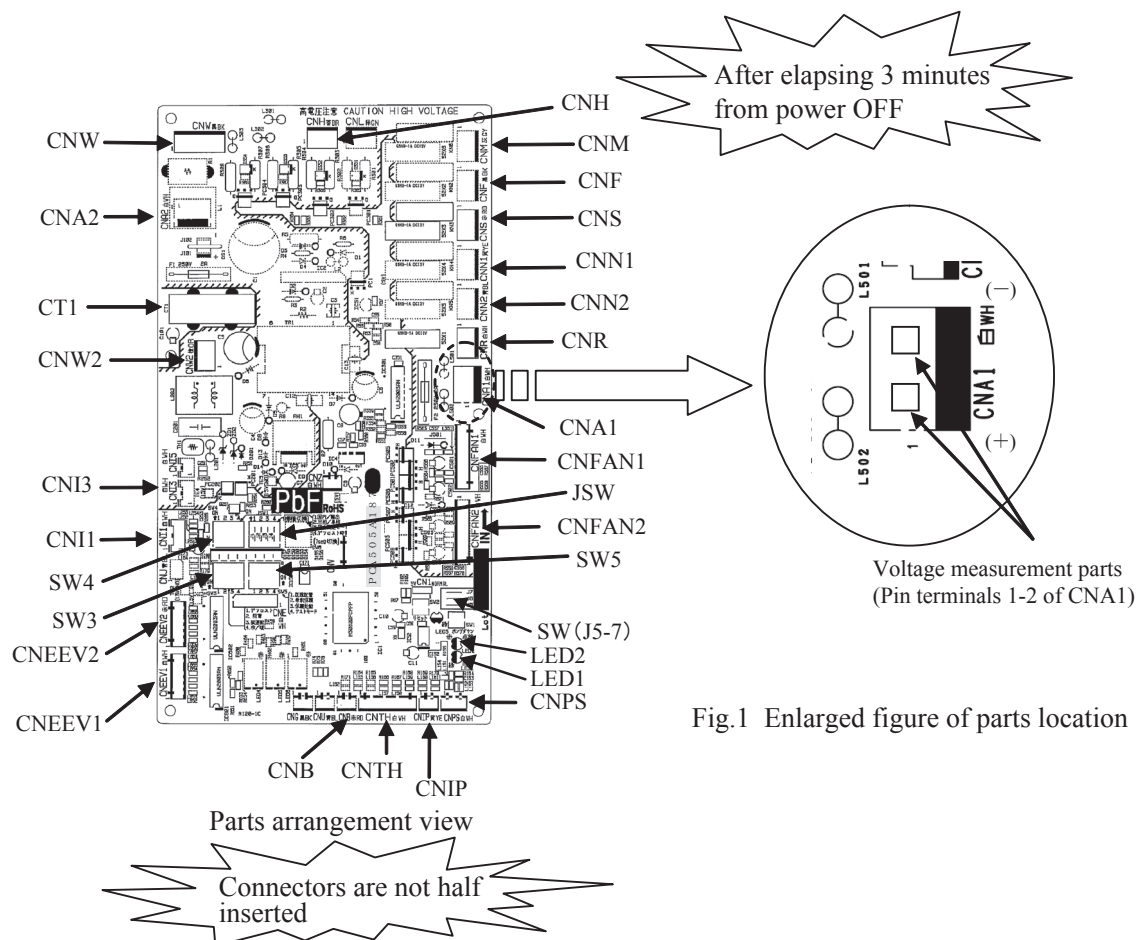

Fig.1 Enlarged figure of parts location
- 6) Connect the connectors with the control PCB referring to the parts arrangement of Fig.1.
- a) After the breaker is shut down, remove the service panel, top panel and rear panel. (Refer to Fig.1).